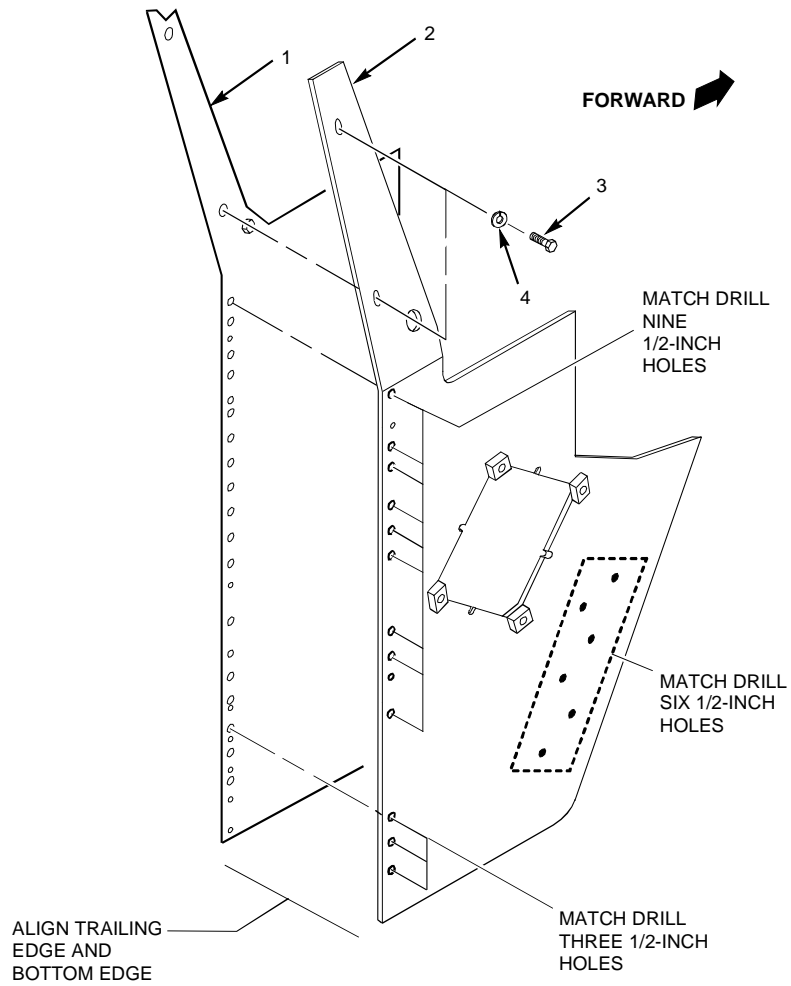

Figure 1-3. Right Side A-Pillar Armor Pre-Installation Fit (2 and 4 Door)
- 1) Pre-fit right side A-pillar armor as follows (see figure 1-3).
- a. Position and align A-pillar armor (2) with vehicle (1) per figure 1-3.
- b. Install c-clamps to secure A-pillar armor (2) in position on vehicle (1).
- c. Install two capscrews (3) and locking washers (4) per figure 1-3. Do not torque capscrews (3).